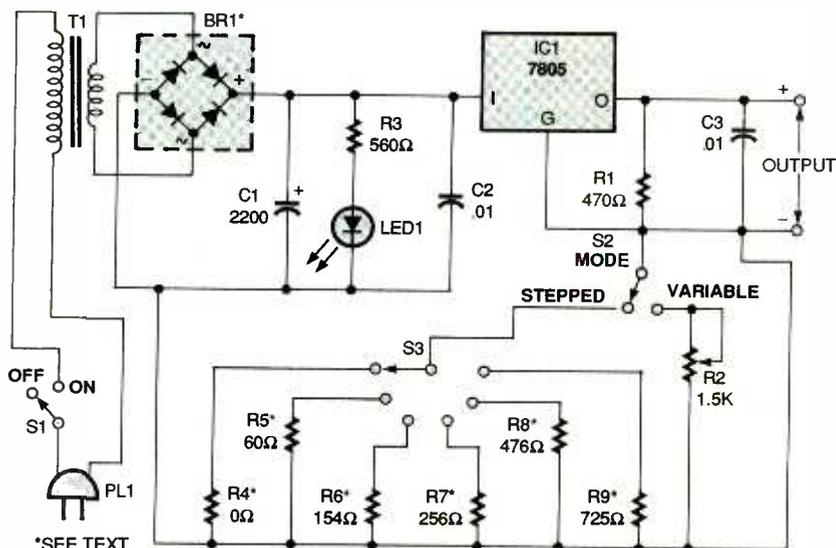

Fig. 1. The Power Supply circuit has an output that can be varied linearly by potentiometer R2 or switched to specific levels by rotary-switch S3.
**Circuit Description.** Figure 1 shows the schematic for the Universal Power Supply. The simple circuit outputs a variety of voltages (customizable by you), and can output up to one amp of current—that's a lot more than most AC adapters. As shown, the Supply outputs between 5- and 15-volts DC.